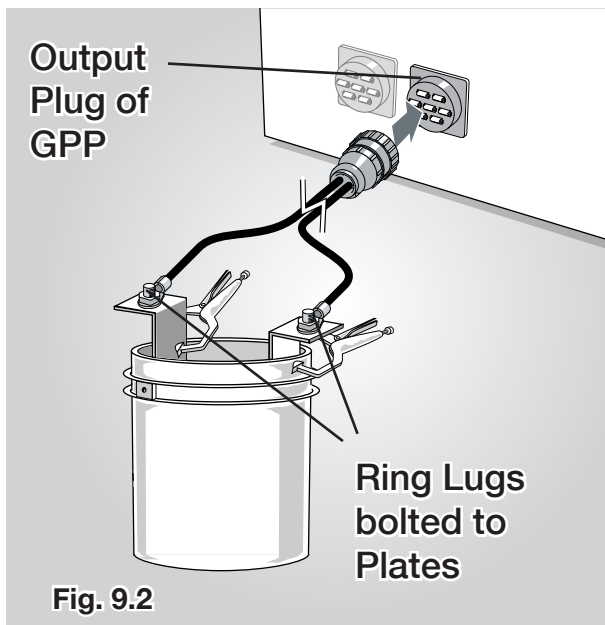

Fig. 9.2
- Connect the test load to the GPP Electrofisher as shown (Fig. 9.2).